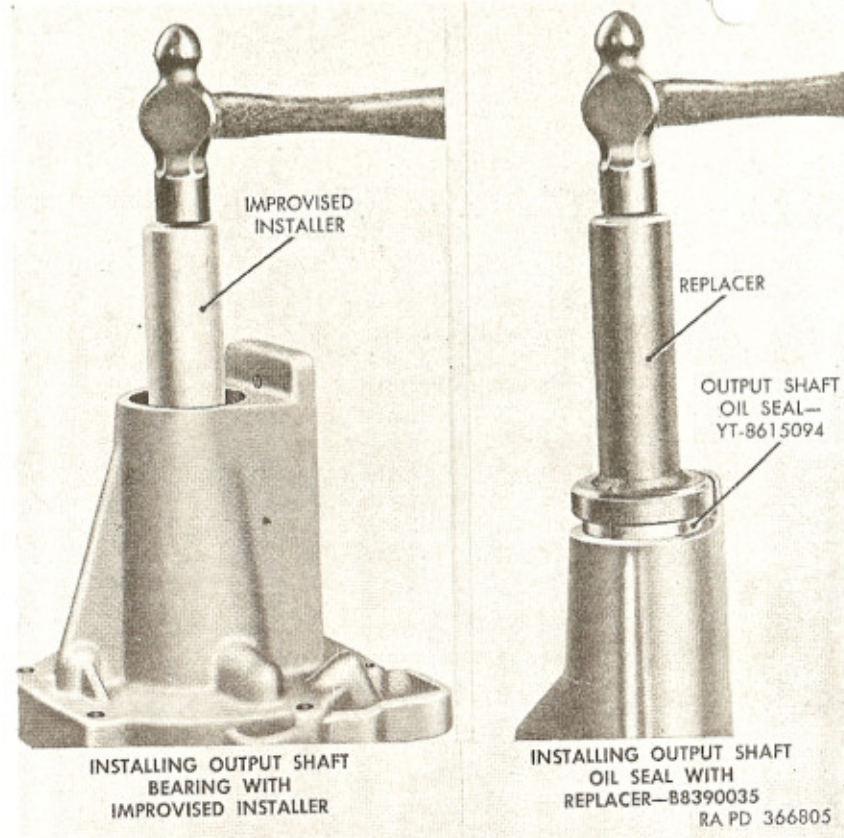

Figure 146. Installing output shaft ball bearing and oil seal.
n. Place output shaft ball bearing (EE) over output shaft and drive into place, using improvised installer and hammer (fig. 146). Drive bearing down until it seats against inner snap ring.
replacer—1 00035 (fig. 146) and hammer, drive oil seal down until seal case seats against shoulder in retainer.